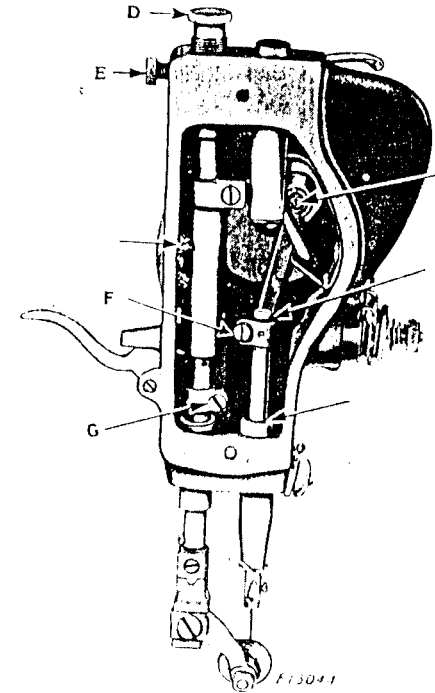

Fig. 4. Oiling Points and Adjustments Behind Face Plate
To change the pressure, loosen the lock screw (E, Fig. 4) at the back of the machine and turn the thumb screw (D, Fig. 4) downward for more pressure or upward for less pressure, then tighten the lock screw (E).
The presser Bar should be set so that when it is down and the feed dog is up, the roller presser clears it by about the thickness of a sheet of paper, for ease in turning corners. The presser bar may be raised or lowered by loosening the collar clamp screw (G, Fig. 4) and moving the collar up or down on the presser bar.
In case the needle bar is not set at the correct height, it can be adjusted by loosening the screw (F, Fig. 4) in the needle bar connecting stud and moving the needle bar up or down as may be required.